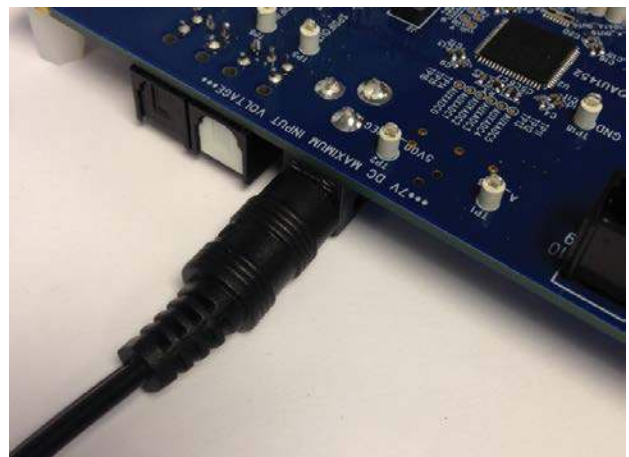

Figure 11. Connecting the Power Supply
- Connect the female plug of the power supply to the J4 male connector on the EVAL-ADAU1452MINIZ, as shown in Figure 11.